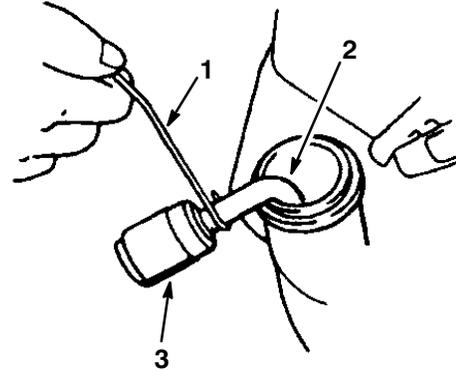

Figure 24
The fuel filter is attached to the end of the fuel pick-up hose inside the fuel tank (Fig. 24).
3. Using a wire hook, gently pull the fuel filter out through the fuel filler opening (Fig. 24).